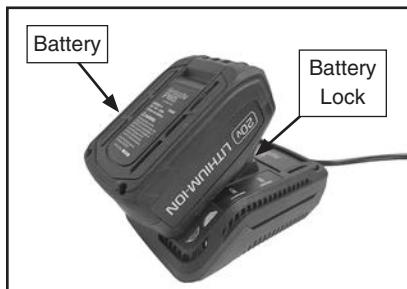

Figure 5. Location of battery lock.
1. Press battery lock (see **Figure 5**) and remove battery from charger.